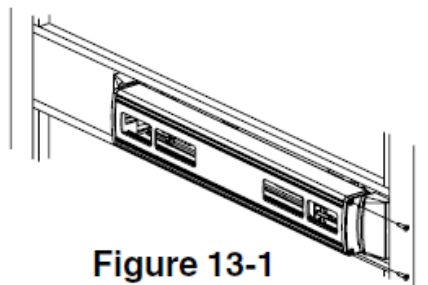

Figure 13-1
- 13.1. Undog device and remove lock side end cap screws (Figure 13-1).